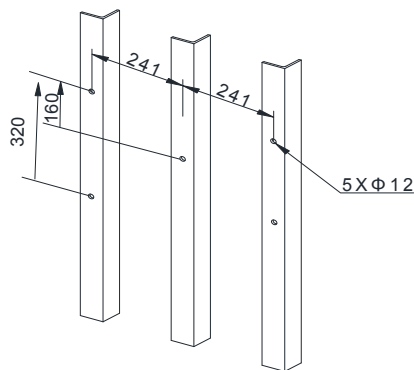

Figure 4-6 Dimensions of drilling holes
Step1: Drill Fix Ø12 holes in the bracket according to the dimensions shows in Figure 4-6: